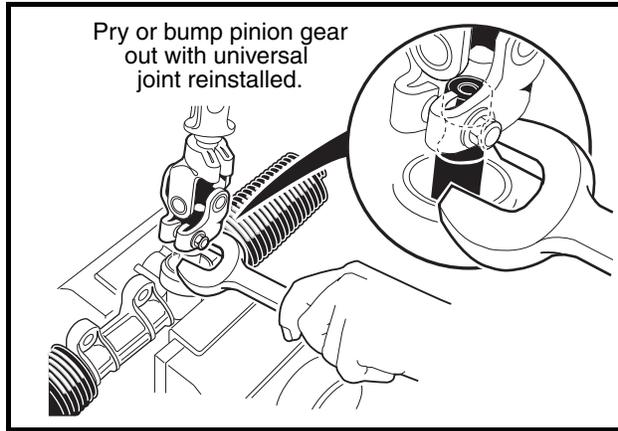

Figure 7-9 Remove Pinion from Housing
10. Install the universal joint onto the pinion and place a large open end wrench under the universal joint (**Figure 7-9, Page 7-9**). Use the wrench as a lever to pull the pinion from the housing.